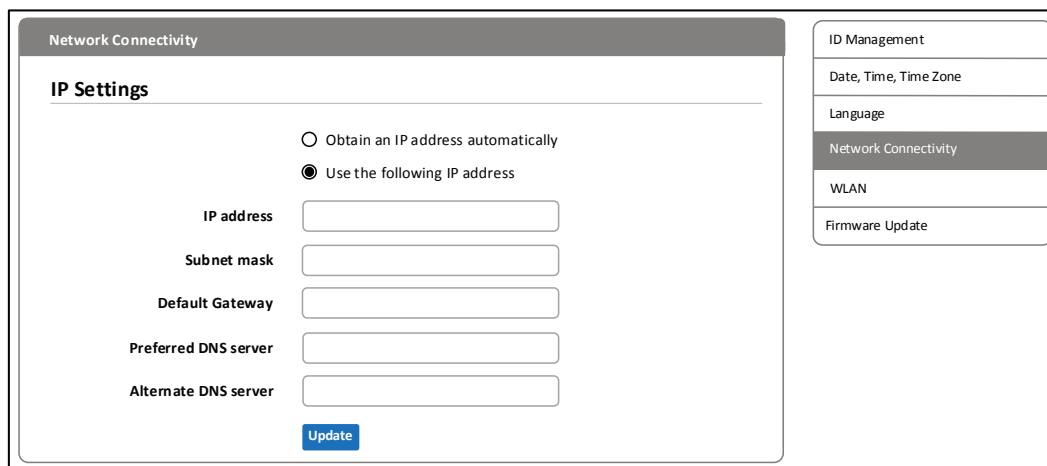

Figure 31, Static IP Address Fields
2. Select the *Use the following IP address* radio button. Five new fields appear below on the screen (see Figure 31).